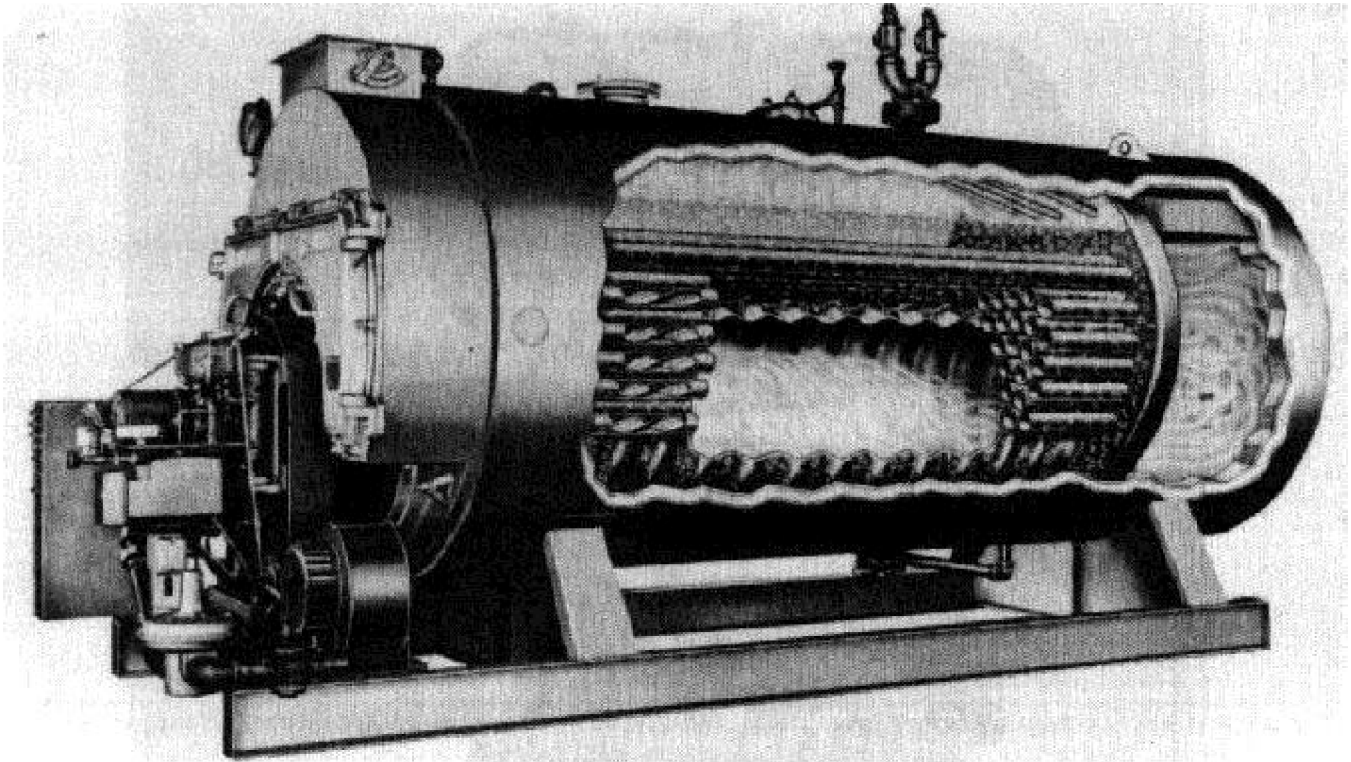

Figure 4-12. Scotch type package unit boiler.
c. *Scotch boilers.* This type boiler (figure 4-12) is an internally fired unit, with a cylindrical furnace or firebox completely surrounded by water. The furnace is usually corrugated to add strength and allow for longitudinal expansion and contraction.